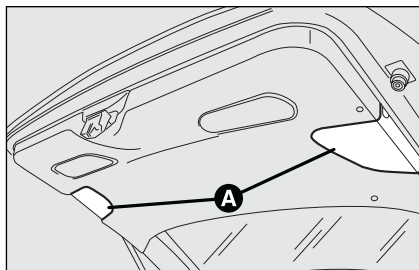
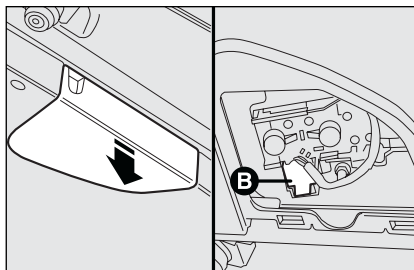

fig. 33
fig. 34
- ☐ push down cover **A**-fig. 33 and remove electric connector **B**-fig. 34;